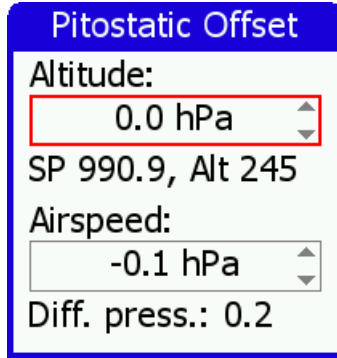

Figure 26: Altitude and IAS offset window
**Set Alt & IAS Offset** Modern digital sensors that are used for the IAS and altitude measurements may drift a little bit over time, especially after being exposed to a prolonged period of severe cold. The window illustrated in Figure 26 allows appropriate adjustment.
- Altitude: Change the offset until the altitude below the offset frame matches the reference altitude (Alt) or static pressure (SP). The reference values are obtained using a reference altimeter set to 1013 hPa.